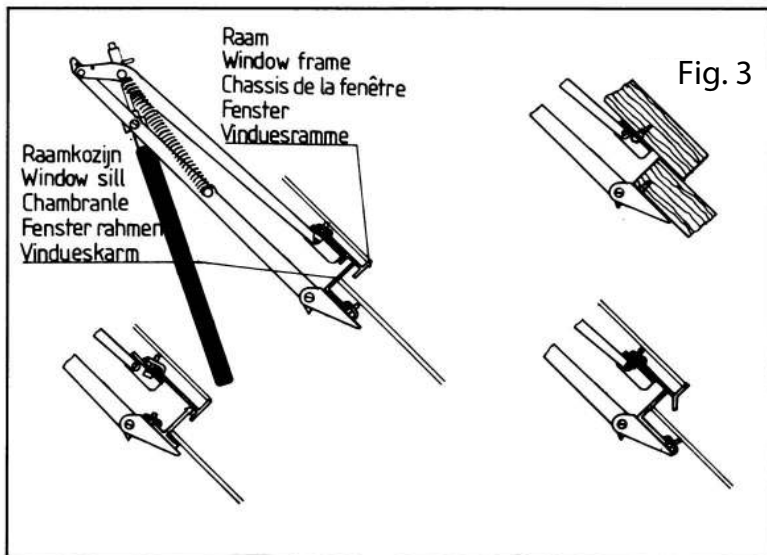

Fig. 3
- 2a On most greenhouses made out of Aluminium fitting is done using the enclosed clamps (part no 11) - see Fig.3. Fit one clamp loosely onto the window brackets (part no 10) of the opener using the enclosed screws - see Fig.2. Choose the most suitable holes on the sill bracket (part no 9) of the opener, and fit the second clamp onto this. Make sure that the upper edge of the sill bracket is as close as possible to the edge of the windowsill.
- 2b For greenhouses made out of wood get some screws for wood, and then follow our instructions outlined under pos. 3-4-5-6-7
- 2c For Aluminium greenhouses where our clamps do not fit, read the manual supplied by the greenhouse manufacturer - and then follow our instructions outlined under pos. 3-4-5-6-7